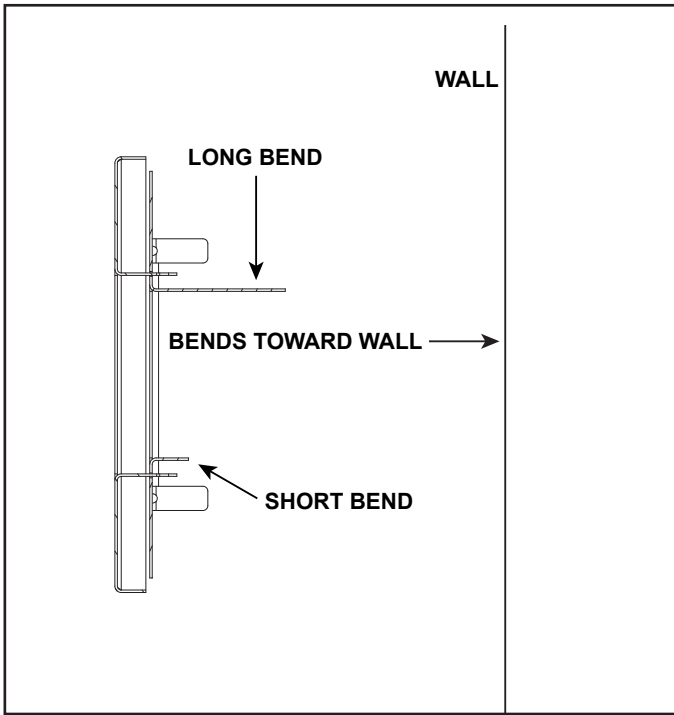

Figure 4 Vent Back Plate Orientation
2. Install the vent back plate with the bends oriented toward the wall and the longest bend on top as shown in Figure 4.